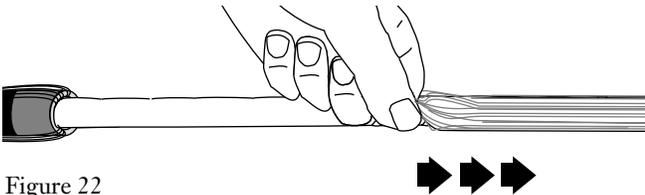

Figure 22
7.3 Starting at the cut point, slide the yarn off the end of the cable (Figure 22). The yarn will bunch up, but will slide to the end of the cable.